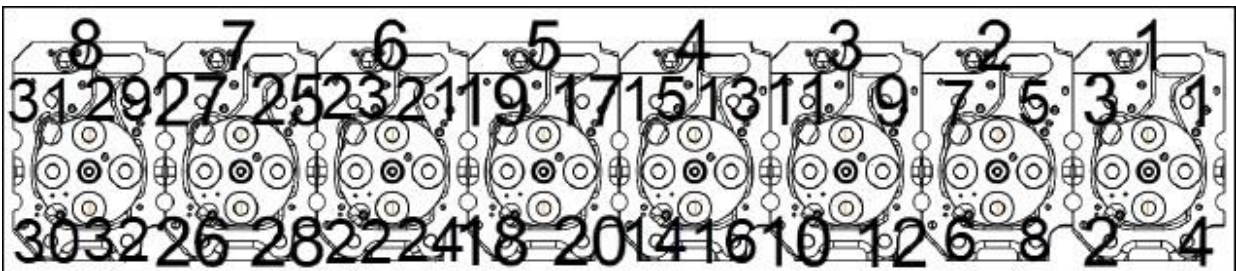

Figure 74. Main Bolt Torquing Order
- Tighten the main bolts in order (Figure 74) 1 through 32 to a torque of 59 ft/lbs.